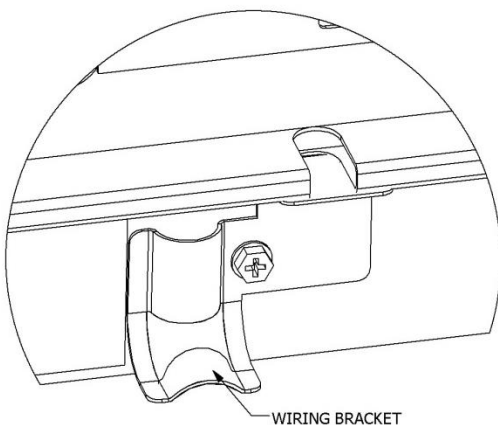

FIG. 2 - FAN WITHOUT LIGHT
3. If the damper is to be used with a fan not equipped with a lighted grille, attach the same wire bracket (rotated 180°) to the frame using the supplied #8-18 screw as seen in Figure 2. Ensure that the bracket covers the notch in the frame.